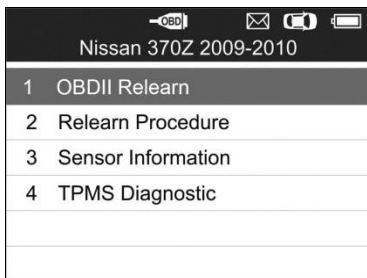

Figure 4.19
1) Select **OBD II Relearn** to write IDs to vehicle directly without performing further procedures (Figure 4.19).